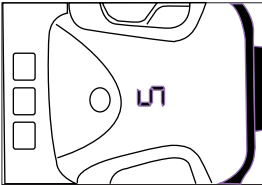

Fig 15
1. Change the dust bag: when the dust full indicator turns red or loss of suction is noticed, it is time to clear the dust bag or replace with a new bag. (Fig 15)